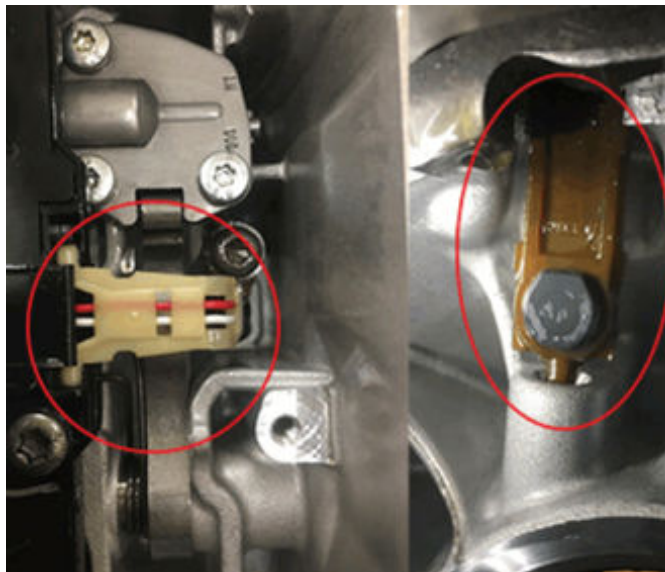

Fig. 46
69. Install the output speed sensor and the bolt in the case and tighten to Fig. 46.